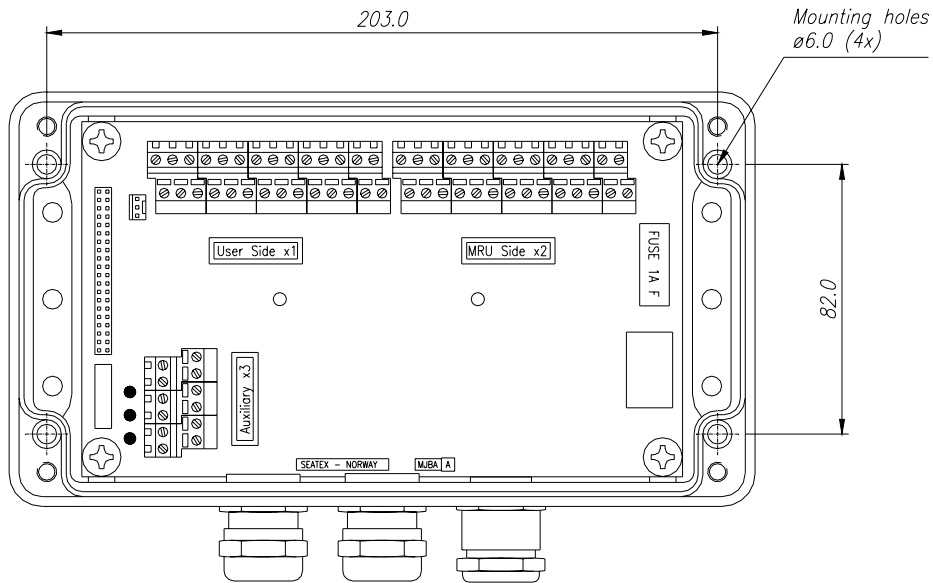

Figure 8 Junction box mounting
- Mount the junction box on the wall in a suitable location within the length of the 3-metre MRU-E-CS1 cable, as shown in Figure 8. The screws for mounting the junction box should be secured with washers or self-locking nuts.